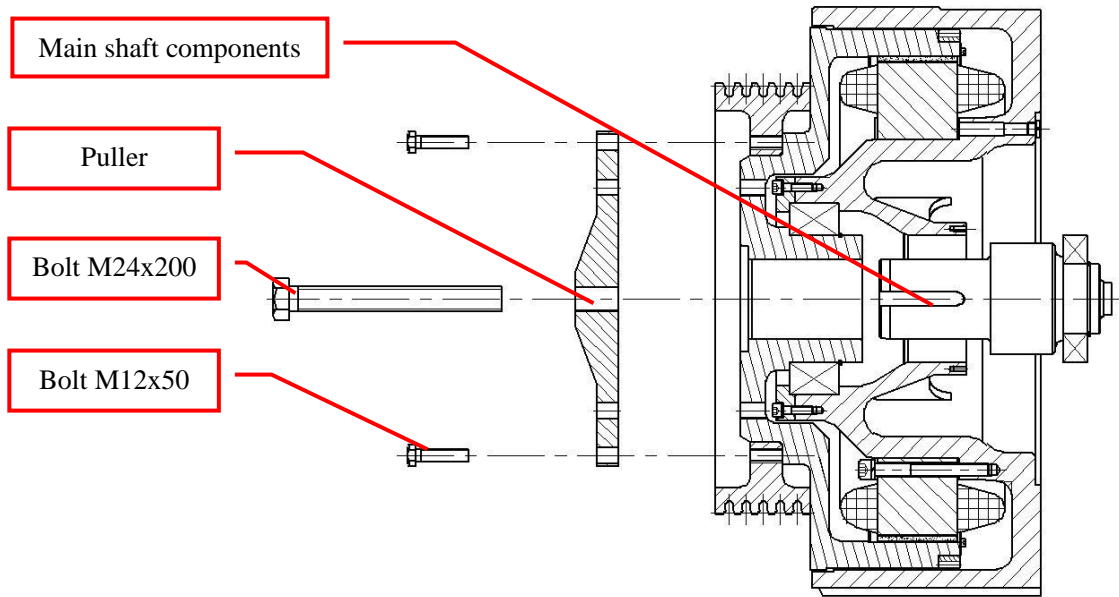
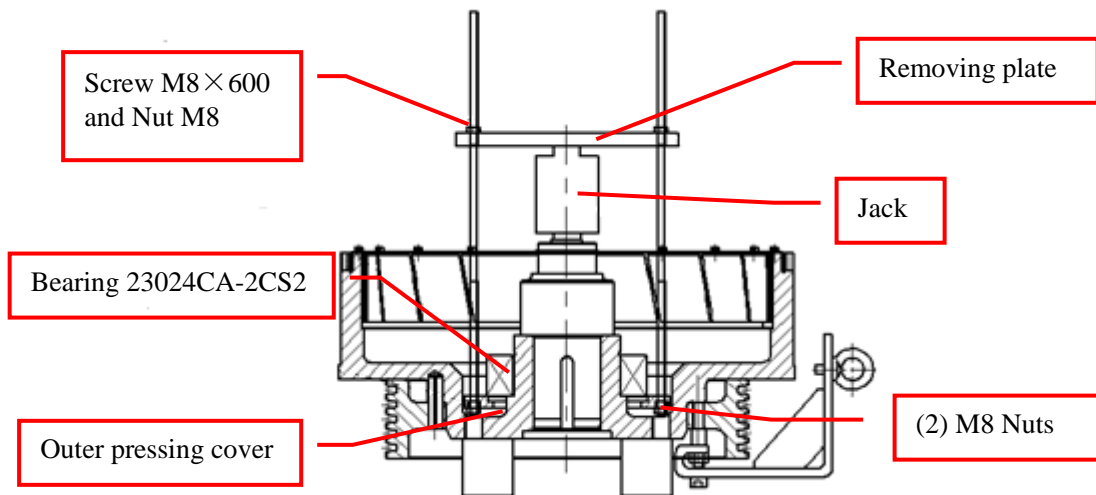

Figure 48: Remove puller
Figure 63: Use Jack to remove bearing and pressing cover
7. Remove the main shaft components, and screw out the bolts M12x50, then remove the bolt M24x200 and the puller. See Figure 48.
10. Slide two M8x600 threaded rods into the M20 holes in the brake wheel and pressing cover. Install two M8 nuts on the end of each threaded rod. Position the jack and install the removing plate with two more M8 nuts as shown in Figure 48. Operate the jack to remove the bearing and pressing cover. Once free, remove the jack, removing plate, and threaded rods. See Figure 63.